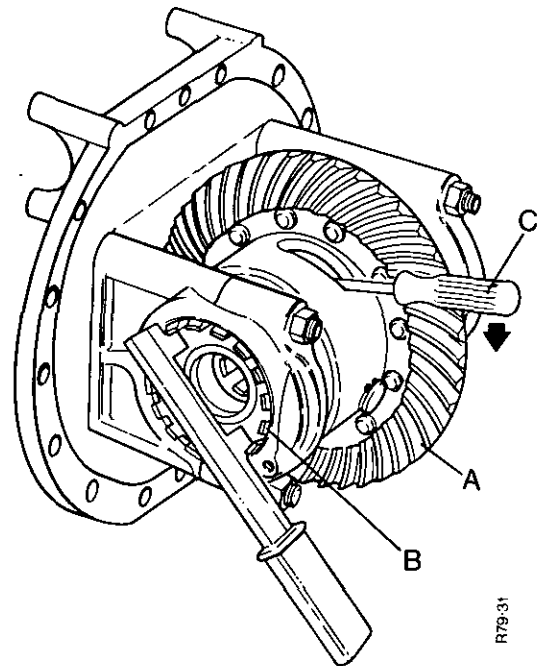

FIGURE 36. ADJUSTING DIFFERENTIAL BEARINGS
9. Fasten a dial gauge to the support bracket. See Figure 36. Put the probe of the dial gauge against the drive face of a tooth of the spiral gear. The probe must be at right angles to the tooth.